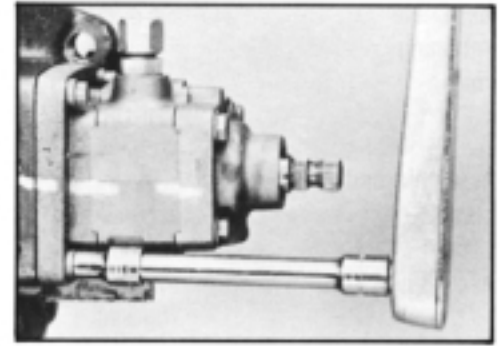

Figure 142
36. Assemble four bolts (17) through adaptor (18) into housing (55). Torque bolts to 45-55 ft. lbs. (61-75 N m) if dry or 42-52 ft. lbs. (57-71 N m) if lubricated. A 7/16 inch 12-point socket required. SEE FIGURE 142.